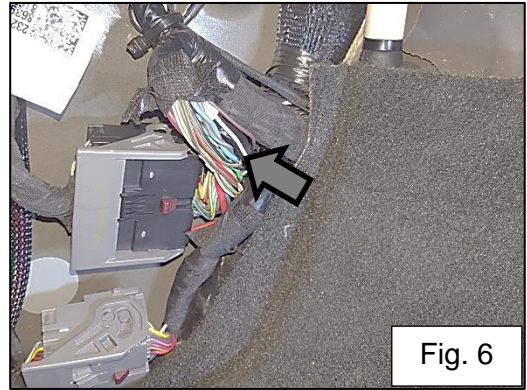

Fig. 6
10. Find the gray and black connector in the drivers kick panel and carefully cut the fabric loom from the wire harness. Find the twisted pair of wires that are light blue and brown/light blue stripe. Install the supplied wiretaps onto the wires. Fig. 6